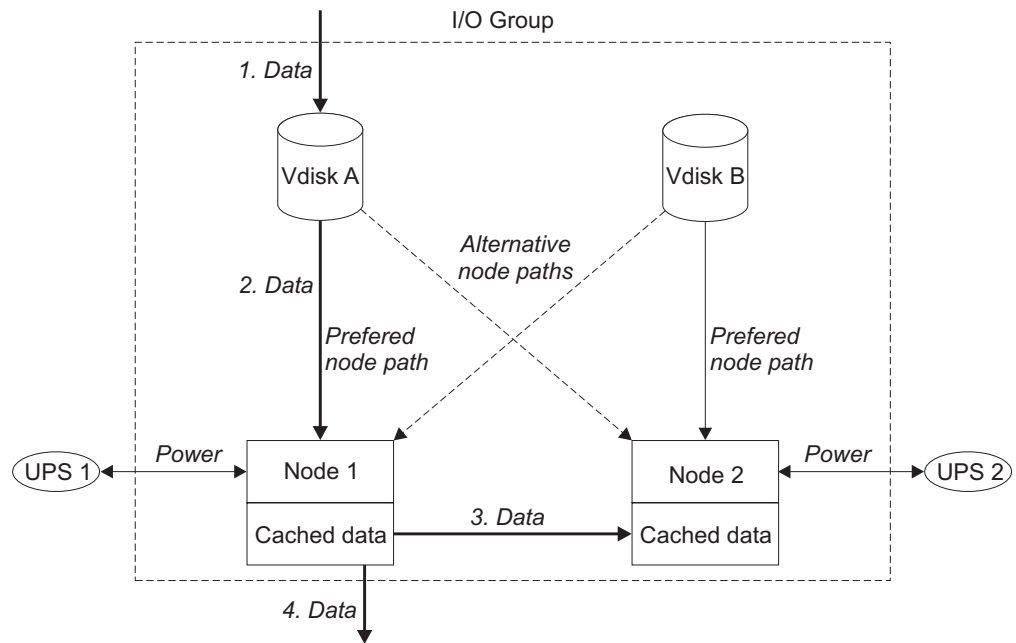

Figure 16. I/O group and UPS
Figure 16 on page 61 shows an example I/O group. A write operation from a host is shown (item 1), that is targeted for VDisk A. This write is targeted at the preferred node, Node 1 (item 2). The write is cached and a copy of the data is made in the partner node, Node 2's cache (item 3). The write is now complete so far as the host is concerned. At some time later the data is written, or de-staged, to storage (item 4). The figure also shows two UPS units (1 and 2) correctly configured so that each node is in a different power domain.